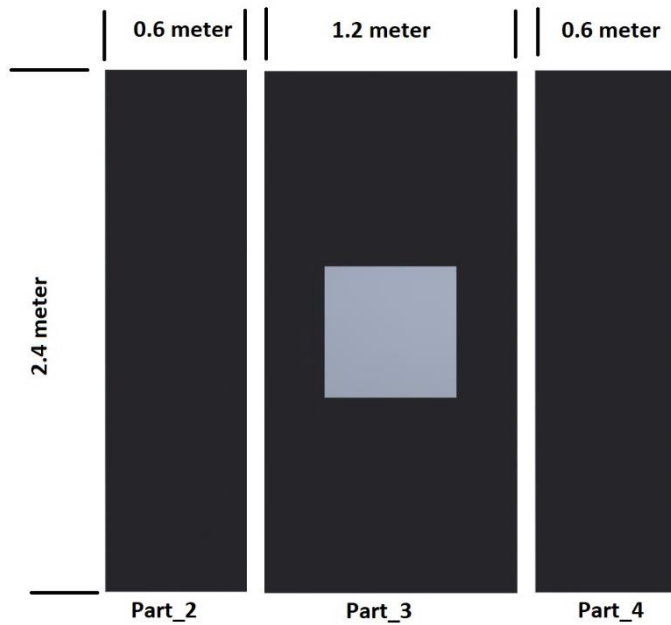

Figure 2
- Cut one sheet in half to make Part\_2 and Part\_4 as shown in figure 2.